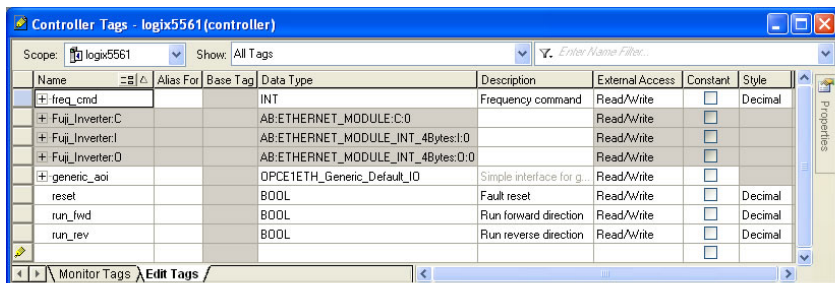

Figure 92: Create Generic Default AOI Tags
- 4) Create the tags in Figure 92.